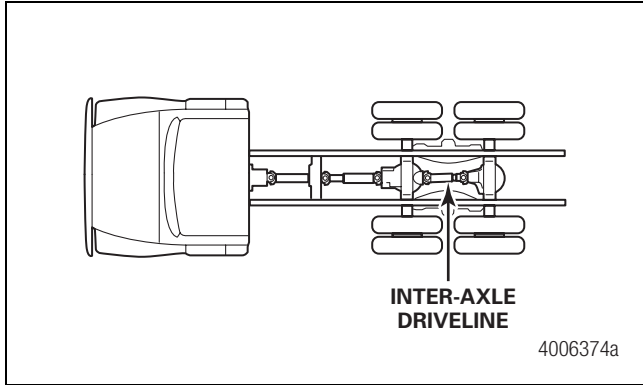
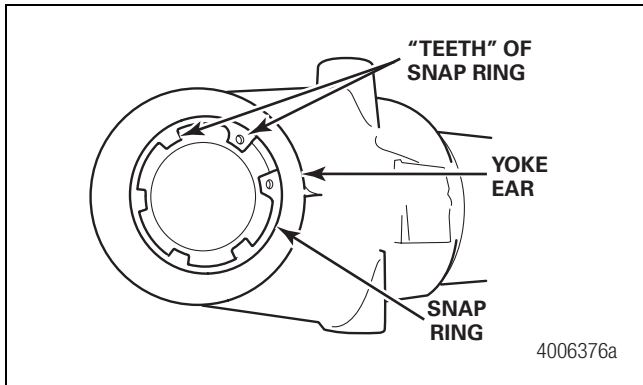

Figure 1
Figure 2
3. Inspect the inter-axle driveline (Figure 1) to verify that snap rings are installed in the slip yoke and weld yoke ear grooves. The snap rings retain the weld yoke and slip yoke universal joint bearings. Figure 2.